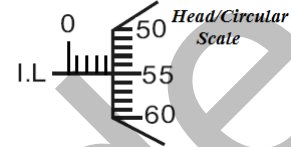

Fig.3
**Example:** Suppose, pitch of screw gauge is 0.1cm and least count is 0.001cm. Assume 55th division of circular/head scale coincides with the index/reference line of pitch scale while the number of completed division on main/pitch scale is 4 (Fig.3). This means that the diameter of the wire is more than 0.4 cm and less than 0.5 cm. Now main scale reading will be 0.4cm and circular scale reading will be 55. Now un-corrected diameter will be,  $d = \text{M.S.} + \text{C.S.} \times \text{L.C.} = 0.4 + 55 \times 0.001 = 0.455 \text{ cm}$